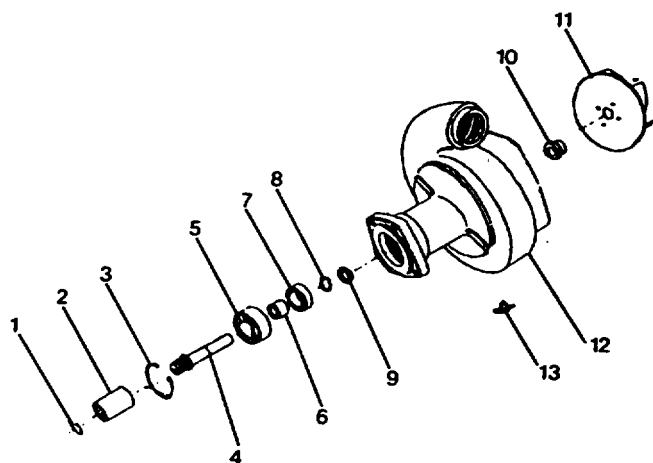
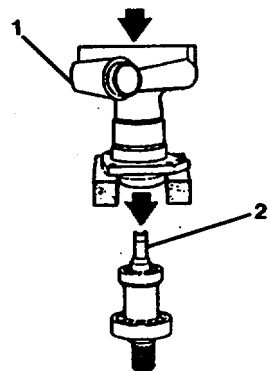
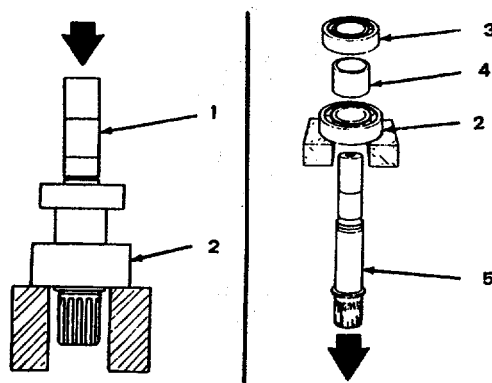

FIGURE 3-1. Engine Cooling System Pump.
FIGURE 3-2. Shaft Removal From Pump.
FIGURE 3-3. Shaft Removal.
- a. Install mechanical puller on centrifugal pump impeller (11, FIG. 3-1).
- c. Support water pump housing (12) in arbor press with drive port of housing down.
- d. Using arbor press (1, FIG. 3-2), apply pressure to impeller end of straight shaft (2) to remove shaft from water pump housing (12, FIG. 3-1)
- e. Remove seal (10).
- f. Remove retaining ring (1).
- g. Remove rigid shaft coupling (2).
- h. Remove valve seat (9).
- i. Remove retaining ring (8).
- j. Using a hydraulic press (1, FIG. 3-3), support the large annular ball bearing (2) as shown.
- k. Remove the small annular ball bearing (3), sleeve spacer (4) and the large annular ball bearing (2) from the shaft (5).
- l. Remove drain cock (13, FIG. 3-1).
- a. Inspect centrifugal pump impeller (11, FIG. 3-1).
- (1) Inspect impeller for nicks, cracks and obvious damage.
- (2) Check for wear marks on outside diameter of impeller and on impeller vane edges.
- (3) Check center (shaft) bore of impeller for wear.
- (4) Measure inside diameter of impeller bore. Verify diameter is within specifications (Table 3-2).
- (5) Replace impeller, if defective.
- b. Inspect straight shaft (4).
- a. Use a hydraulic press to support the shaft (4, FIG. 3-1).
- b. Push the large bearing (5) with a mandrel on the shaft (4) until it touches the shaft step.
- c. Install sleeve spacer (6) on the shaft.
- d. Push the small bearing (7) with a mandrel on the shaft until it touches the sleeve spacer.
- e. Install the retaining ring (8).
- f. Support the water pump housing (12) in an arbor press with the impeller side down.
- i. Install retaining ring (3, FIG. 3-1).